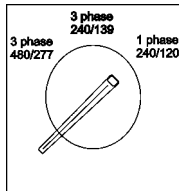

Figure 40. Voltage Selector Switch
8. Check the voltage selector switch to desired position. (Figure 40).